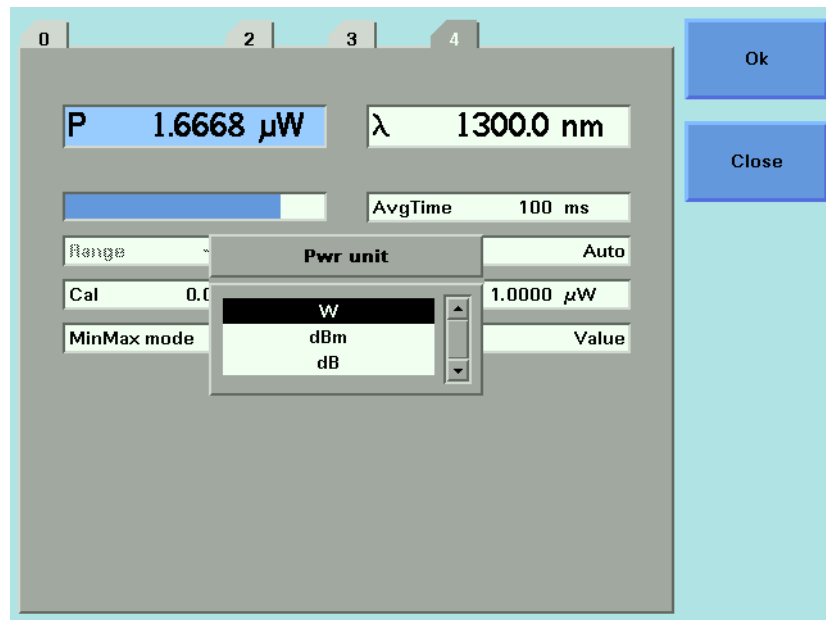

Figure 42 Selecting the Power Unit
- 1 Move to the [P] parameter and press the [Power Unit] softkey. You will see the menu in *Figure 42* .